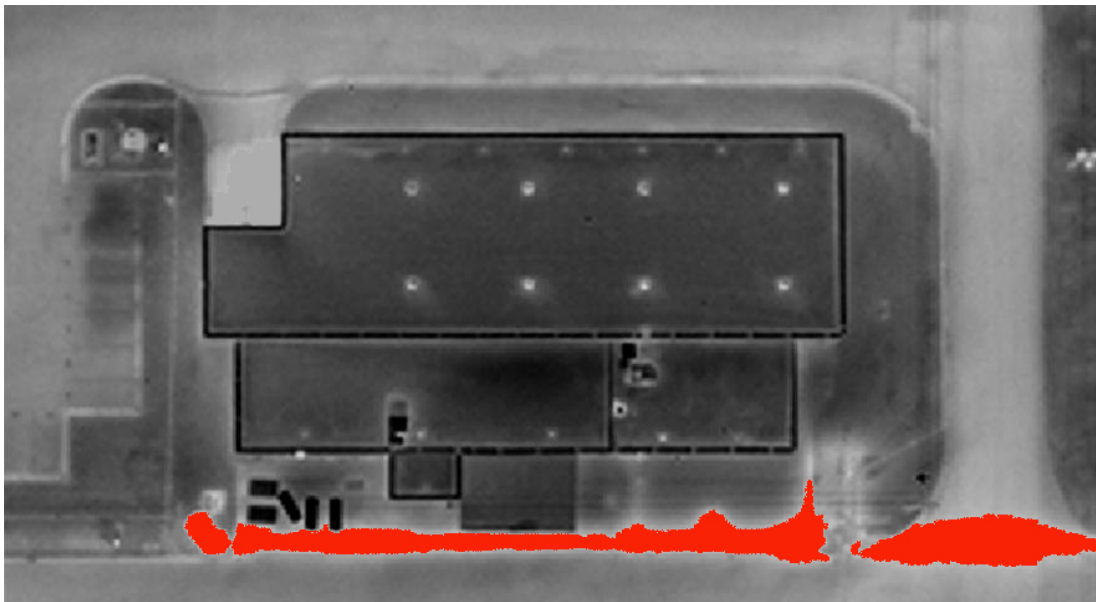

Figure 4) IR thermograph showing a leaking steam line (highlighted in red).
**Steam and condensate return lines** (see figure 4) are almost always readily visible with infrared imaging, even when no notable problems exist. This is due to the fact that no matter how good the insulation, there is always heat loss from the lines, which makes its way to the surface. Problem areas are generally quite evident, having brighter infrared signatures that exceed the norm. Steam line faults normally appear as an overheated line or as a large hotspot in the form of a bulge or balloon along the line. Overheated lines often occur when the steam line is located in a conduit or tunnel. If there is a leak in the line, it will heat up the conduit with escaping steam. If a steam line is buried directly in the ground with an insulating jacket, a leak will usually saturate the insulation, rendering it largely ineffective and will begin to transfer heat into the ground around the leak, producing the classic bulge or balloon-like hot area straddling the line. Some leaks may show up as an overheated manhole or vault cover. Manholes or vaults that contain leaking steam system control apparatus will often heat the covers to warmer than normal temperatures.